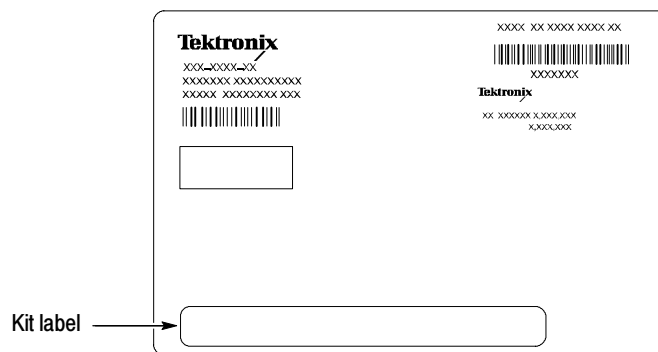

Figure 4: TLA700 series logic analyzer module label
4. Locate the big label on the side of the logic analyzer module (see Figure 4).
5. Note the location of the long label (indicated by “Kit label” in Figure 4). Depending on your instrument, this could be a label inside a rectangle or a string of text.
6. Locate PowerFlex option label from the label sheet that you received with this kit. Peel the label from the sheet and affix it to the location indicated by “Kit label” in Figure 4.